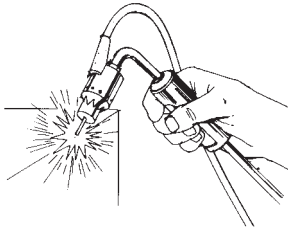

Figure 41-9: Fume Extraction Gun
- 2) Fume extraction gun (Figure 41-9)